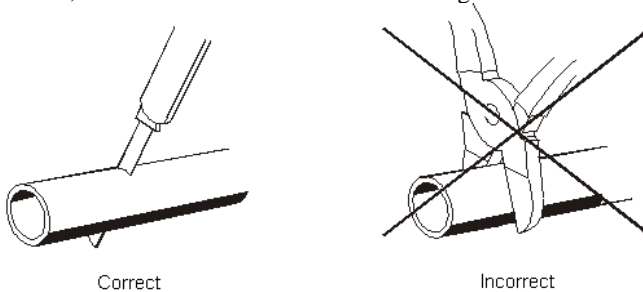

Figure 7.7 – Tube Cutting Prior to Installation
7.5.2 When installing the fuel supply line, do not allow connecting sleeves to bend. Use a sharp knife to cut the fuel tube as in Figure 7.7. The cutting location shall be free of indentations, hairs and must not restrict flow through the tube.